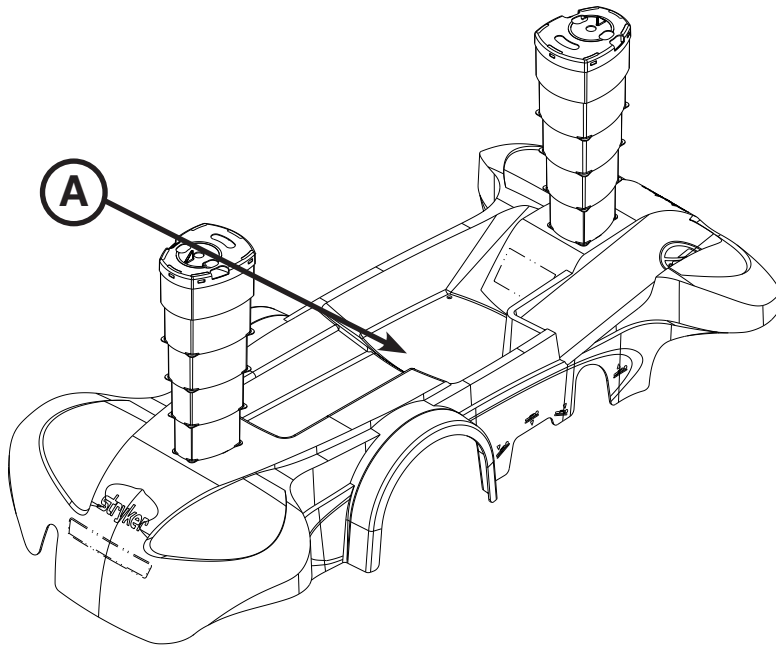

Figure 30: Base Hood Storage
You can store items in the base hood (A) as shown in Figure 30.